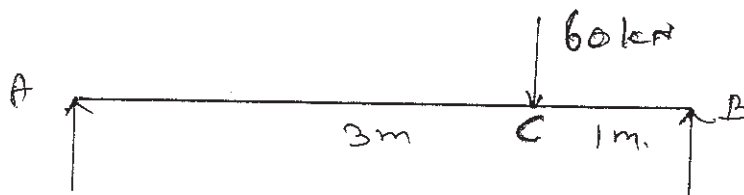

Fig. Q. 11. a) ii
11. a) i) A circular bar of 25 mm diameter and 4 m long is subjected to a tensile load of 75 kN is gradually applied. If the value of Young’s modulus $E = 2 \times 10^5 \text{ N/mm}^2$, calculate the increase in length, stress in the bar and the strain energy stored in the bar during extension. (6)
- ii) Using Castigliano’s theorem, obtain the deflection under a single concentrated load applied to a simply supported beam shown in Fig Q. 11 .a.ii. Let $EI = 2.2 \text{ MNm}^2$. (7)